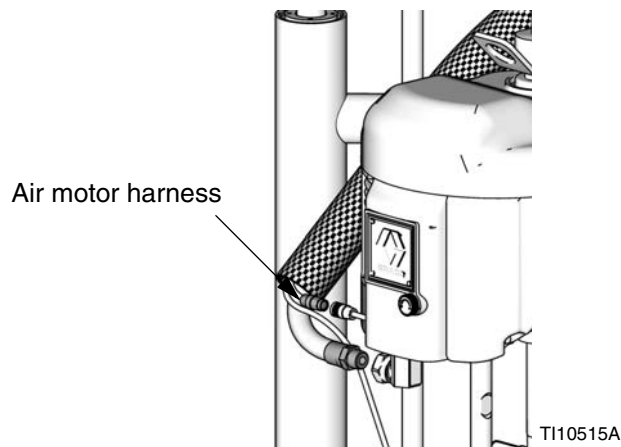
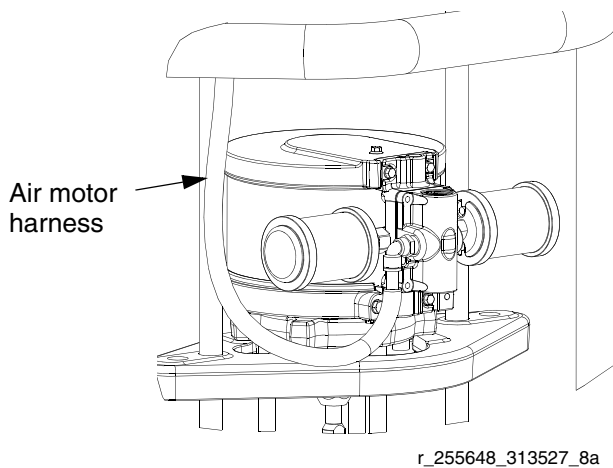
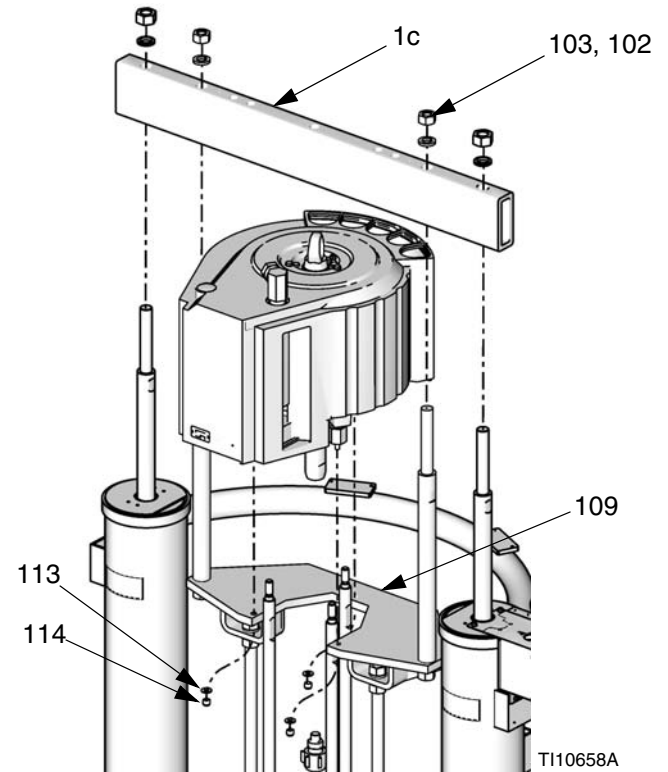

FIG. 21: NXT 2200-6500 Air Motor Harness
FIG. 22: NXT 200-1800 Air Motor Harness
FIG. 28: Premier Air Motors
3. Connect air hose to motor. If using a remote Data-Trak, connect electrical connections to the air motor. See FIG. 21 and FIG. 22 on page 25.
1. Using a capable hoist, lower air motor on the mounting plate (109). See FIG. 28.
2. Secure motor to mounting plate (109) with nuts (114) and washers (113).
3. Install cross bar (1c), nuts (103), and washers (102).
5. Connect air hose to motor. If using a remote Data-Trak, connect electrical connections to the air motor. See FIG. 21 on page 25.